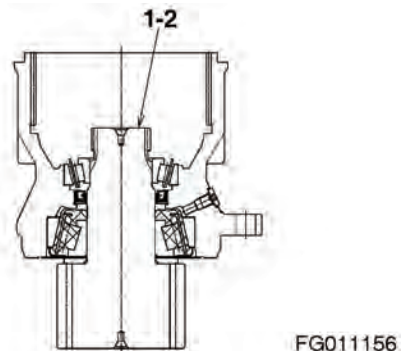

Figure 43
7. Remove pinion shaft (1-2, Figure 43).